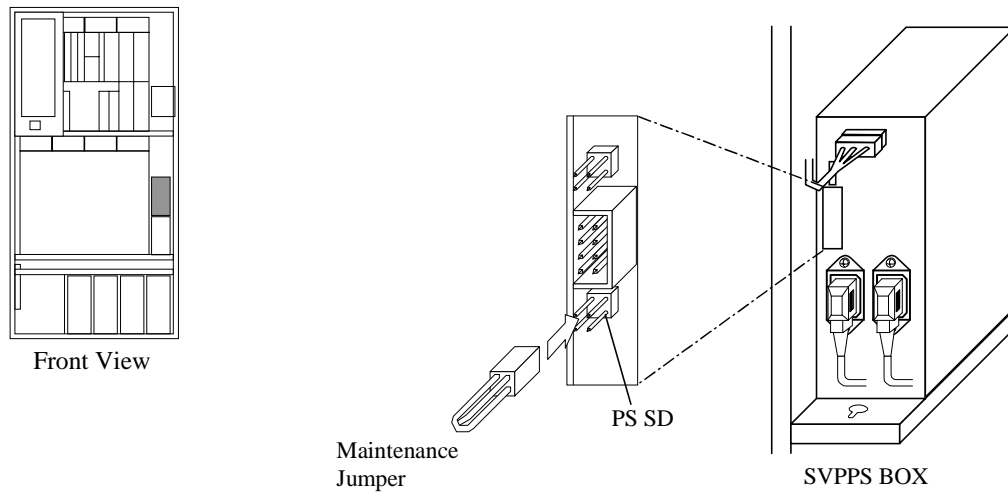

Fig. 3.15-3 Jumper settings of SVPPS BOX
- a. Remove the maintenance jumper of the PS SD on the SVPPS BOX. (See Fig. 3.15-3.)